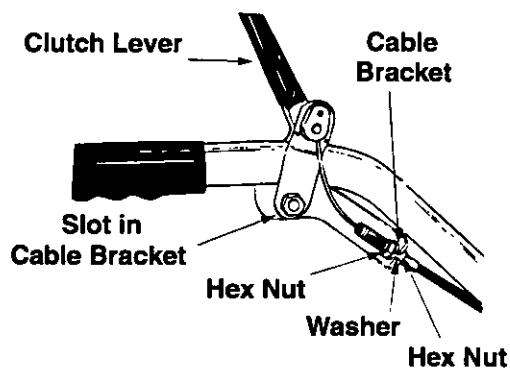

Figure 14
**If the belt turns with the unit in neutral**, adjust by moving the hex nut below the cable bracket **down** two full turns. See Figure 14. Tighten the upper hex nut against the bracket.